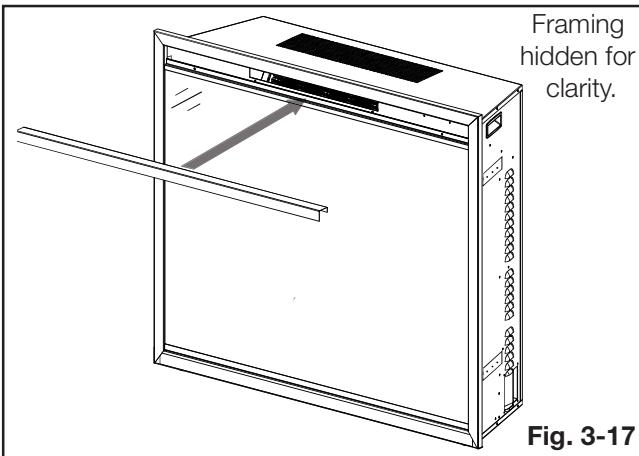

Fig. 3-17
13. Re-install the front decorative cover held in place by 2 magnets (**Fig. 3-17**).